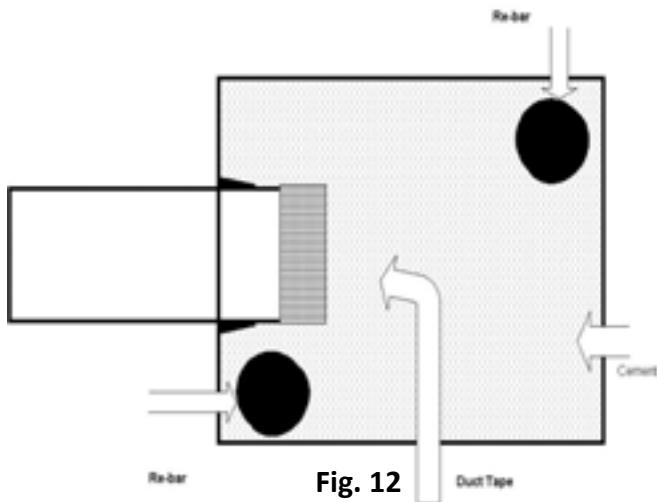

Fig. 12
Step 1. If Re-Bar is not being used, proceed to Step 2. For each corner, end and gate post, cut two pieces of #4 Re-Bar shorter than the post length. Drop two pieces into each post at opposing corners (Fig. 12).